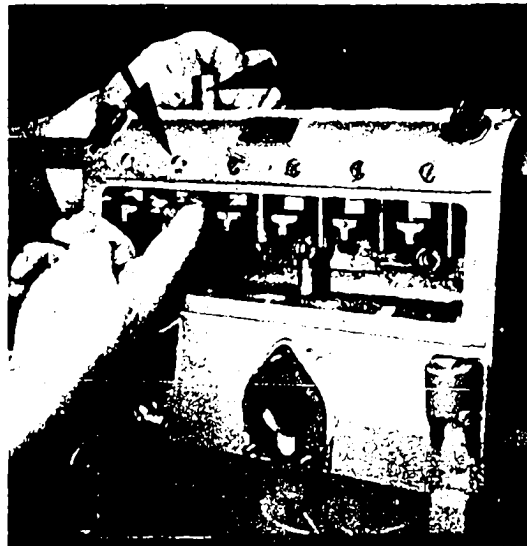
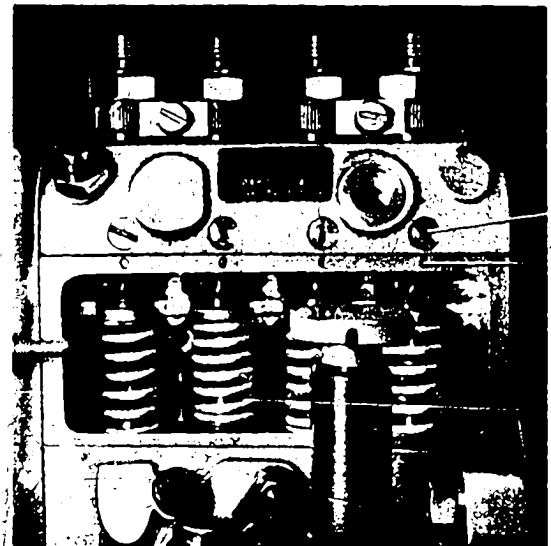
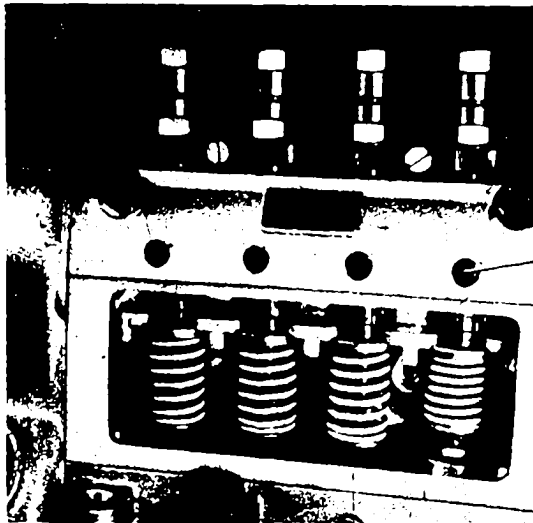
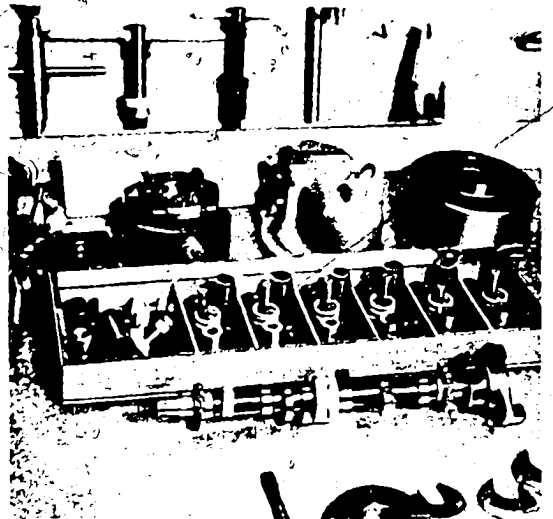

Fig 30 Lift out pump barrel (on size B) Barrel-locating pin removed
Fig 31 Pump type A with baffle screw
Fig 32 Pump type B
Fig 33 Deposit barrels on depositing board
locking screw. Unscrew locking screw (63) with its joint washer (64) and lift pump barrel off upwards (Fig. 30). In individual cases on pumps type B, this locking screw is also developed as a baffle screw. Do not confuse baffle screws on type A pumps (Fig. 31) with locking screws on type B pumps (Fig. 32). Baffle screws on pumps type A need not be removed from the pump housing when dismantling the pump. Unless barrels are numbered, special precautions should be taken against mixing them up. Deposit barrels on depositing board (Fig. 33).